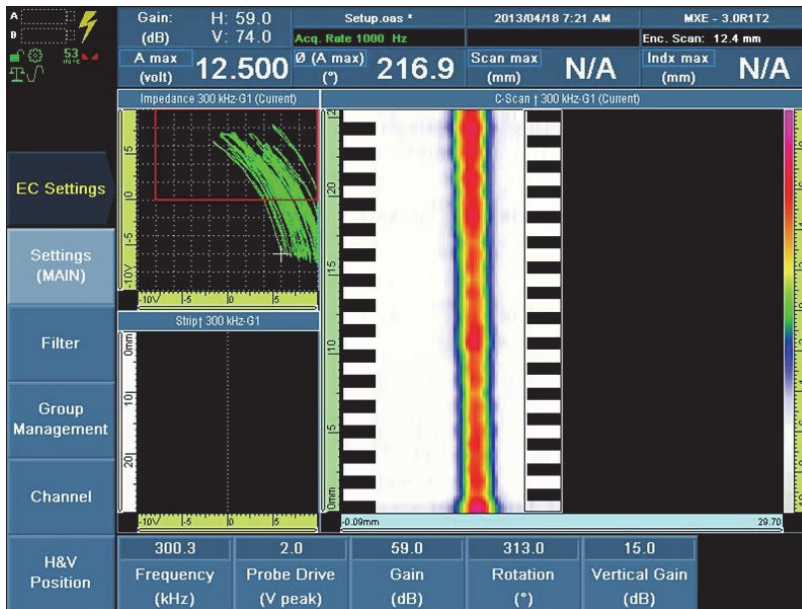

Figure 13-7 Example of cracks displayed after a rotation, gain, and vertical gain adjustment
15. Scan the Nortec TB-S1 calibration sample and make sure that the cracks are displayed (see Figure 13-7 on page 236).